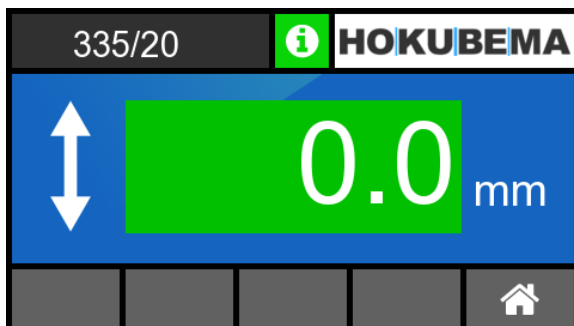

Figure 31: Display screen for chip removal
- To reset the display to the calibration value 0.0 mm, press the "Set" button once → The display changes back to normal operation (see ⇒ Figure 31) and now indicates 0.0 mm.
- Then press the "Set" button to calibrate the display to the newly defined value → The display changes back to normal operation (see ⇒ Figure 31) and now indicates 0.0 mm.